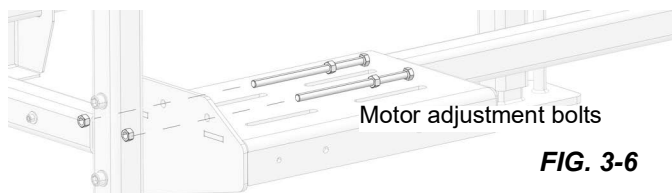

FIG. 3-6
9. Screw one nut on each motor adjustment bolt before inserting into the motor mount shelf. See FIG. 3-6.
15. Use the adjustment bolts to tension the chain on the sprockets as shown in FIG. 3-6.